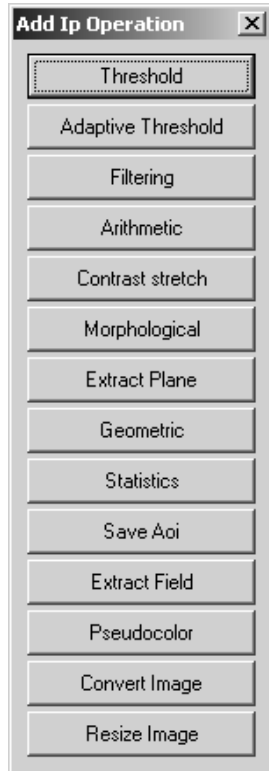

Figure 15. – Add IP operation dialog box.
**Add** – adds a new image processing operation to current list. Clicking the Add button brings up the Add IP operation dialog box (figure 15) through which the image processing operation is selected.